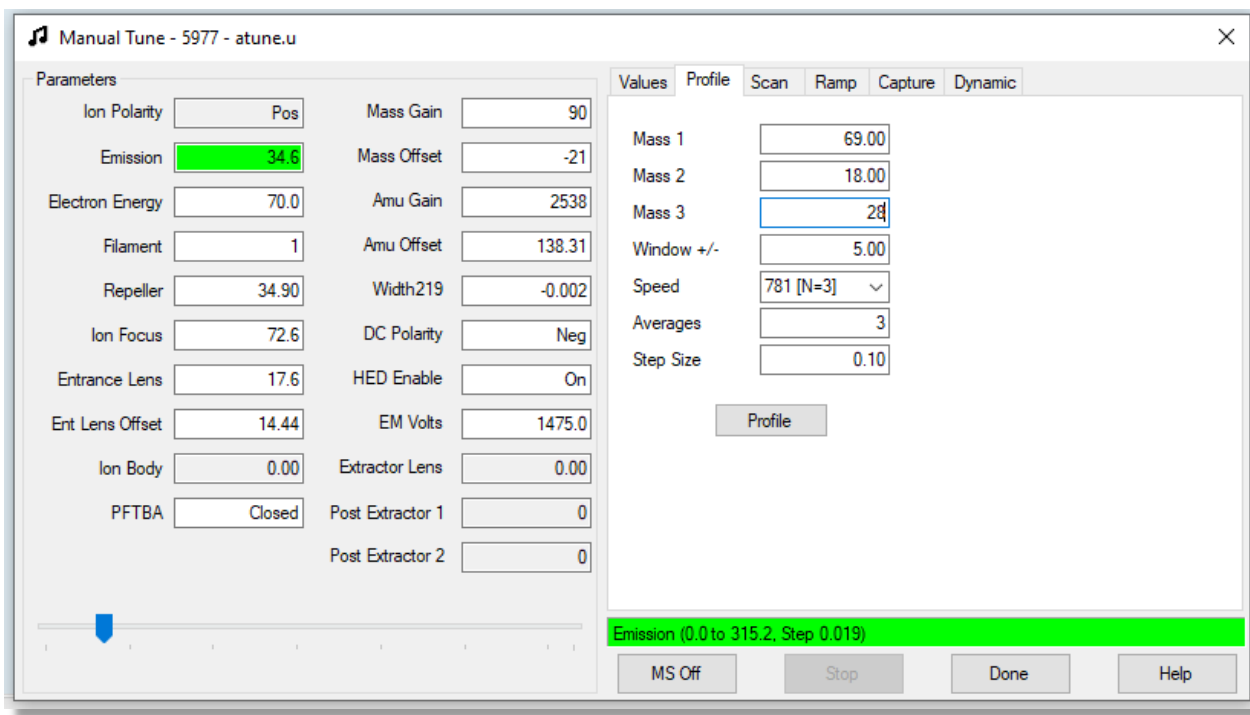

Figure 22. Air/water check initiated by clicking Profile.
8. Click the **Profile** tab and enter 69 for Mass 1, 18 for Mass 2, and 28 for Mass 3 (Figure 22).
9. Double click in the **PFTBA** box (Figure 22) to open the calibrant valve.
10. Click the **Profile** button (Figure 22) and allow the profile reading to settle for 5 seconds.